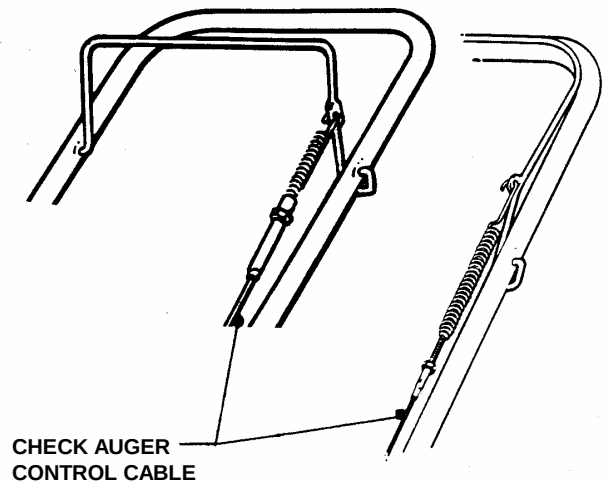

FIGURE 4.3
1. Visually check cable for fraying, kinking or severed cable strands. Replace cable and adjust tension before operating snow thrower. See Figure 4.3.